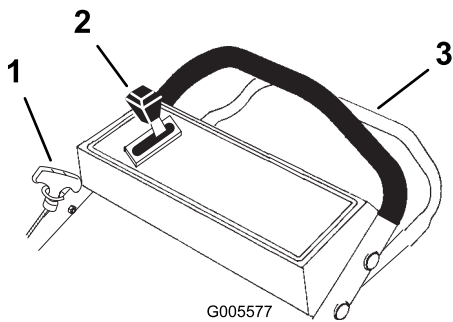

Figure 10
The controls are located on the upper handle as shown in Figure 10.
4. Hold the control bar against the upper handle (Figure 10).